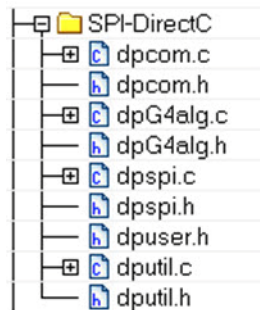

Figure 2-2 • SPI-DirectC v1.2 Files to import into your Development Environment
1. Import the SPI-DirectC v1.2 files shown in Figure 2-2 into your development environment.